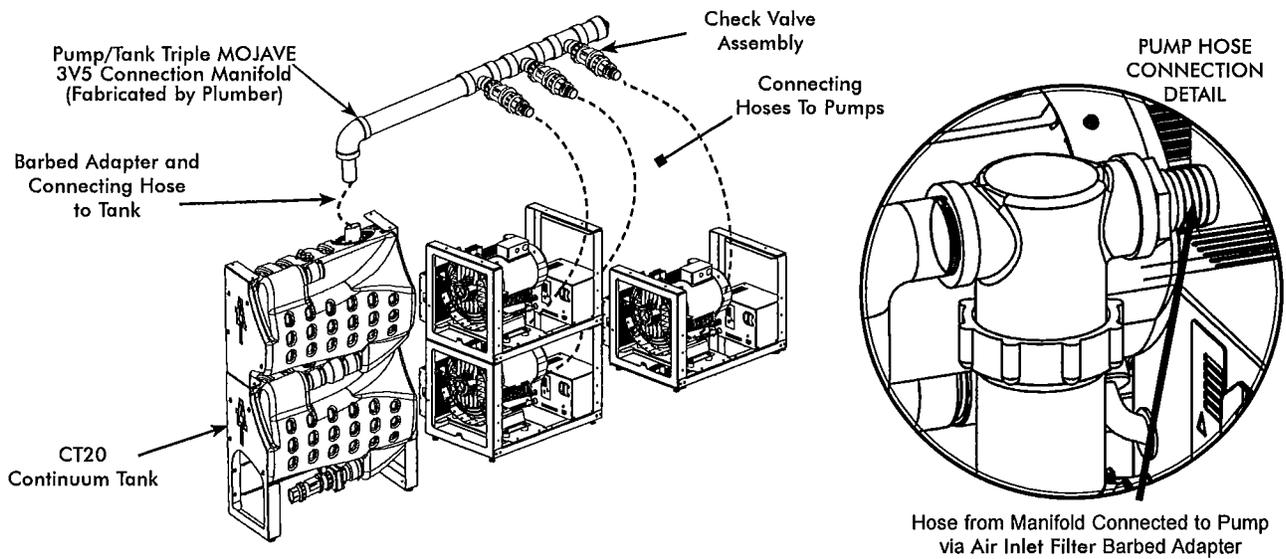

Figure 12. 3V5 System Connection Detail Using Accessory Kit
Connection Procedure. Installation of the triple and quad **MOJAVE** model configurations consist of making connections between a CT20 tank and three or four V5 pumps. In any case, the hose connections between the suction line and tank, the tank and drain line and pump to the facility vent line are identical as shown by Figures 6. Use the **4V5 MOJAVE** Accessory Kit to connect the V5 pumps together for connection to the tank as shown by Figures 12 and 13. Refer to Figures 4 through 13 and perform the following procedure.
4. Measure and record distance between each connection point as shown in the corresponding connection detail diagram (Figures 12 and 13).
6. Using industry standard techniques, install pipe to hose adapters as shown in the corresponding connection detail diagram (Figures 12 and 13).